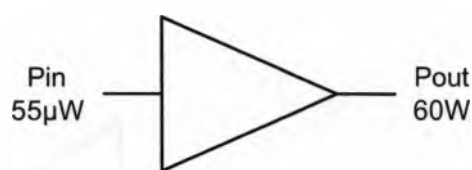

Figure 4
12. What is the power gain of the amplifier in Figure 4?